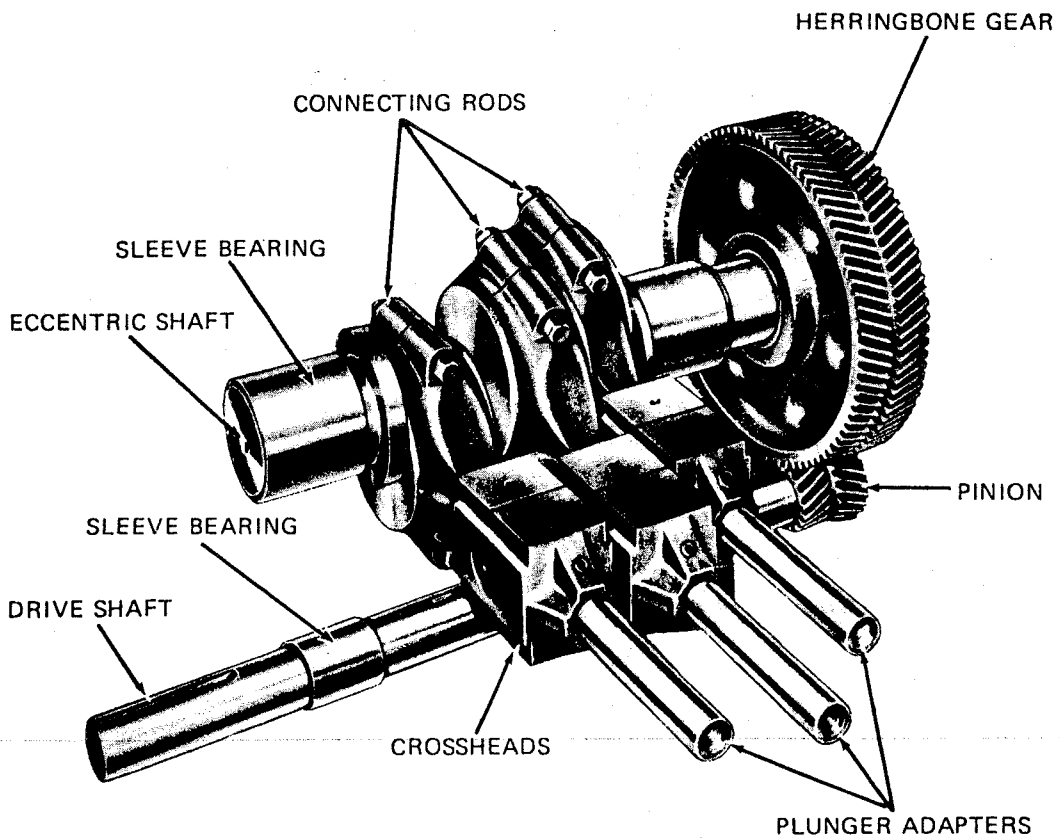

Figure 22
MODELS M6 & M12 HERRINGBONE GEAR & PINION (Figure 22, Plates B166, B167)
8. If pinion and driveshaft assembly is also to be removed when the driven sheave, (item 18) has been removed, the driveshaft assembly will slide out with the large gear as the gear puller moves the gear out.
- ### DRIVESHAFT ASSEMBLY (Figure 22, Plates B166, B167)
ECCENTRIC SHAFT & BEARINGS (Figure 22, Plate B167)
CONNECTING ROD AND CROSSHEADS (Figure 22, Plate B167)